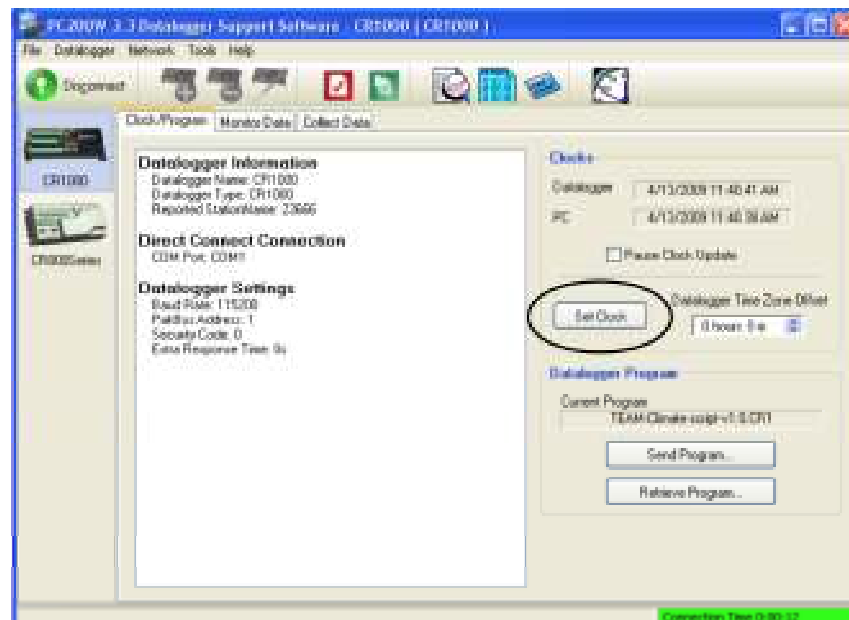

Figure 8: Main PC200W window with set clock button highlighted.
8. **Clock Synchronization:** This is crucial to ensure that all climate data are properly time stamped. **IF YOU FORGET THIS STEP THE DATA WILL HAVE NO VALUE!** To perform the clock synchronization hit the **Set Clock** button in the clocks area in the main window of PC200W (see Figure 8 on page 20). **MAKE SURE THAT THE CORRECT LOCAL DATE AND TIME** are shown in the Data Logger Field. In locations with Daylight Savings Time (DST) ensure that the standard time is shown (not the DST time).